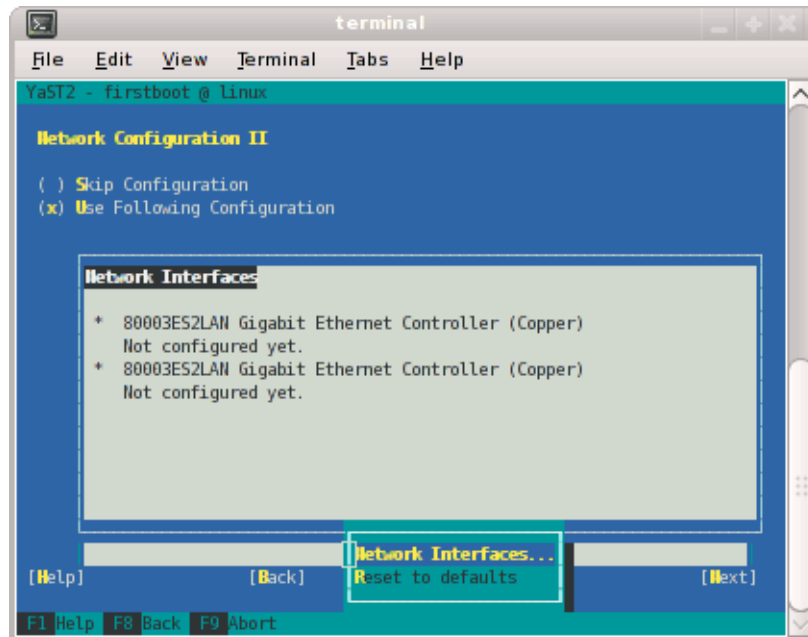

Figure 2-4 Network Configuration II Screen
7. The **Network Configuration II** screen appears, as shown in Figure 2-4 on page 42. Select **Change** and a small window pops up that lets you choose **Network Interfaces...** or **Reset to Defaults**. Choose **Network Interfaces**.